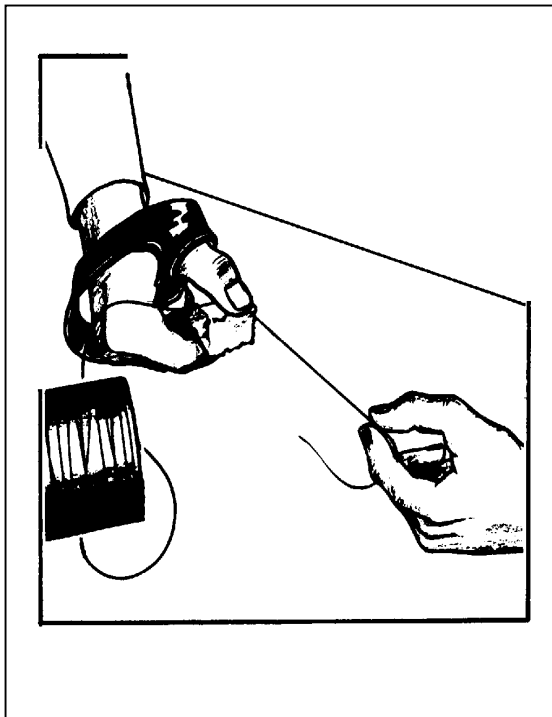
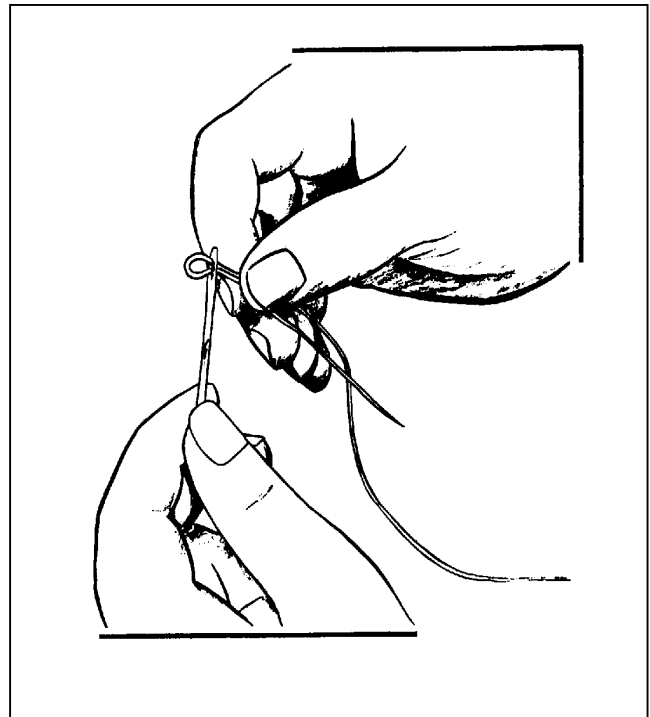

Figure 7-2. Waxing the thread
Figure 7-3. Threading a sailmaker's needle
b. **Waxing the Thread.** The fabric repair specialist uses technical beeswax (NSN 9160-00-253-1173) to wax the piece of thread to keep it from fraying and to protect it from mildew and the weather. Waxing the thread helps the thread to pass more easily through the hole made by the sailmaker's needle. To wax a piece of thread (Figure 7-2)--
- (1) Hold one end of the thread against the piece of beeswax with the thumb of one hand.
- (2) Grasp the thread, and pull the entire length of the thread across the surface of the beeswax with the other hand.
- (3) Repeat these steps until the thread is sticky.
c. **Threading the Needle.** The fabric repair specialist threads the needle with waxed thread. To thread a sailmaker's needle (Figure 7-3)--
- (1) Fold over the piece of thread to form a small loop. Make the loop near one end of the thread if two strands are used. Make the loop at a point halfway between the ends if four strands are used.
- (2) Stick the loop through the eye of the needle.
- (3) Pull half of the thread through the eye, and make the ends even.
- (4) Tie the ends in a knot.